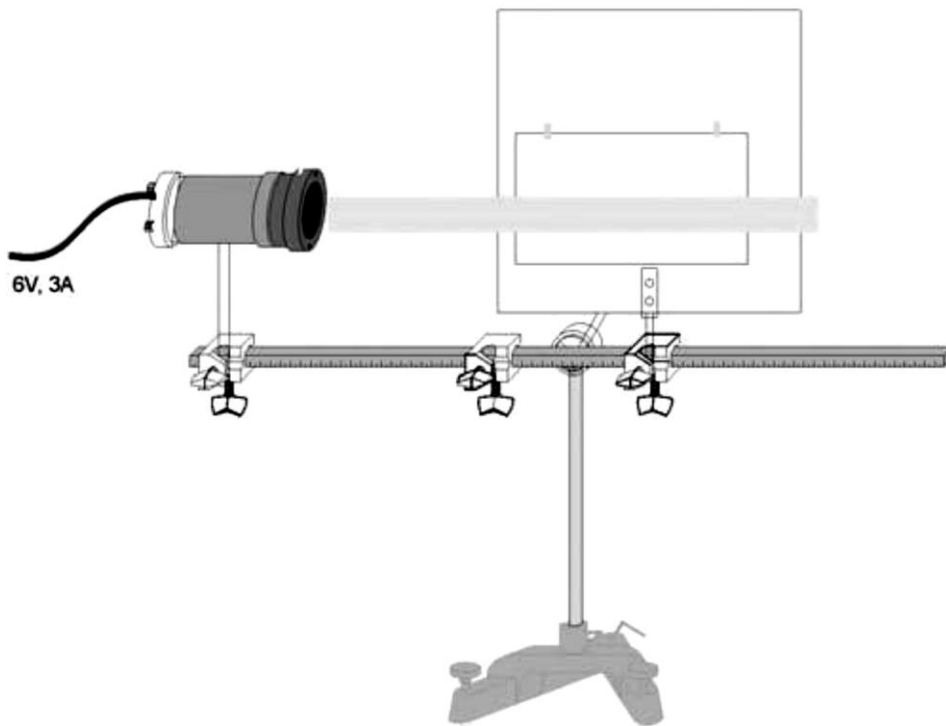

Fig. 41.5. Initial experimental setup
1. Install the lamp with the aspheric condenser and the semi-transparent screen on the optical bench (with the screen parallel to the bench as shown in Fig. 41.5). The lens is not needed yet.